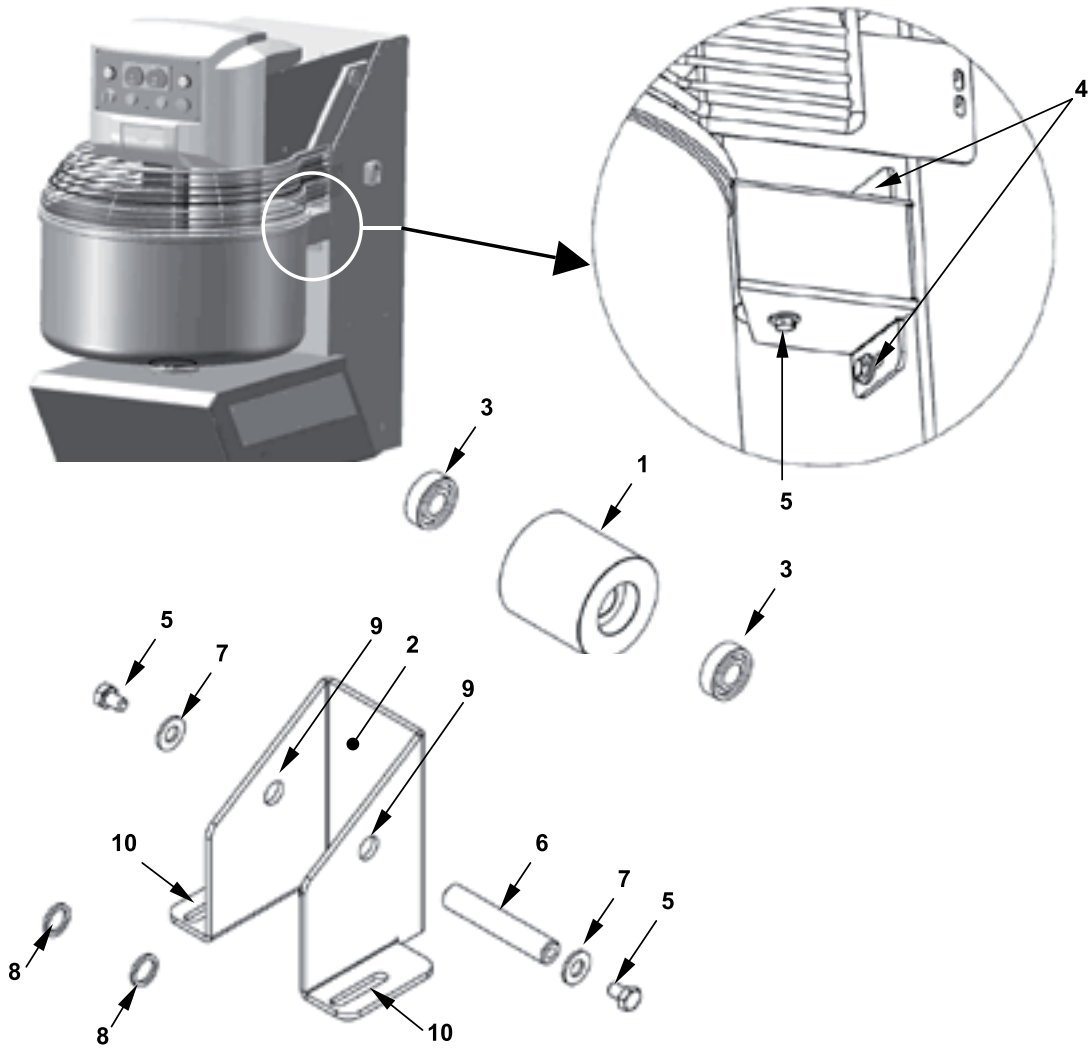

Figure 19 - Bowl guide rollers
Look at Figure 19, each of the two bowl roller sets comprises an idle roller pos. 1 and a mount pos. 2; their function is to counteract the force of the spiral whose force would otherwise deform the bowl. Replace the roller pos. 1, provided by Omcan with the bearings (pos. 3) every time when excessively worn or unserviceable:
- Undo the screws pos. 4 and washers to remove the complete unit.
- Undo the screws pos. 5; Be careful not to drop the roller pos. 1 with the pin pos. 6 and not to lose the washers pos. 7 and rings pos. 8; then grip the whole assembly and secure it at the mount pos. 2.
- Use a plastic hammer and a hard punch on the pin pos. 6 to get it out of the bearing pos. 3.
- Insert the new roller pos. 1 with bearing pos. 3 on the mount pos. 2 so that the hole matches with the holes pos. 9 of the mount pos. 2.
- Insert the pin pos. 6 as far as possible in the holes pos. 9 of the mount and the centre hole of the roller (place the shims pos. 8 between bearing pos. 3 and sides of the support pos. 2), then press down with a hard plastic hammer; tighten the screws, pos. 5 at the ends of the pin pos. 6 with washers pos. 7.
- Reassemble the group in the machine, screwing but not tightening the screws pos. 4 and its washers, in the threaded holes of the column after passing them through the slots pos. 10 of the mount pos. 2.
- The bowl not being perfectly cylindrical, the roller pos. 1 must be placed so that it touches the wall of the bowl at the point where it is closest to the roller itself; to do this move the mount pos. 2 along the slots pos. 10, then, once you find the right position, lock it by tightening the screws, pos. 4.
- Check that the distance between support pos. 2 and bowl is not more than 4 mm, this is vital to minimize the risk of gripping, dragging or crushing between the roller pos. 1 and bowl; If you are unable to comply with the aforementioned maximum distance do not use the machine and immediately contact Omcan.